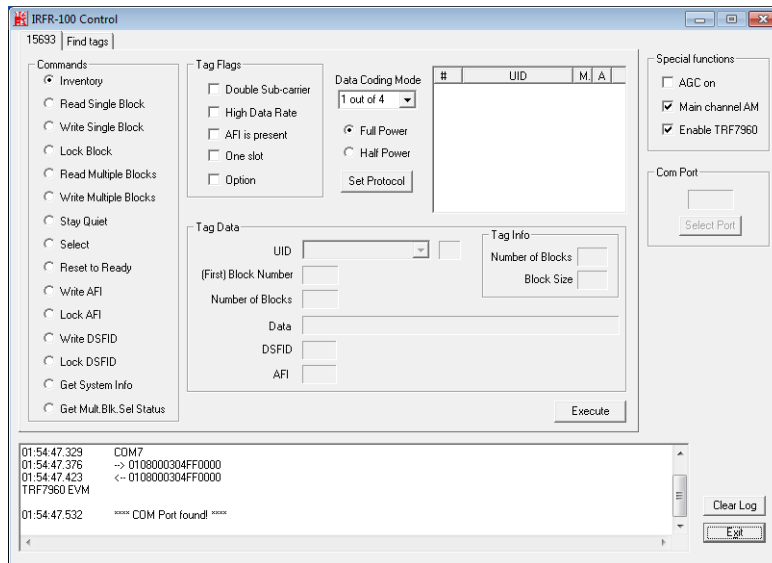

Figure 3-20: IRFR Screen
Step 4: The IRFR-100 window appears (**Figure 3-20**).